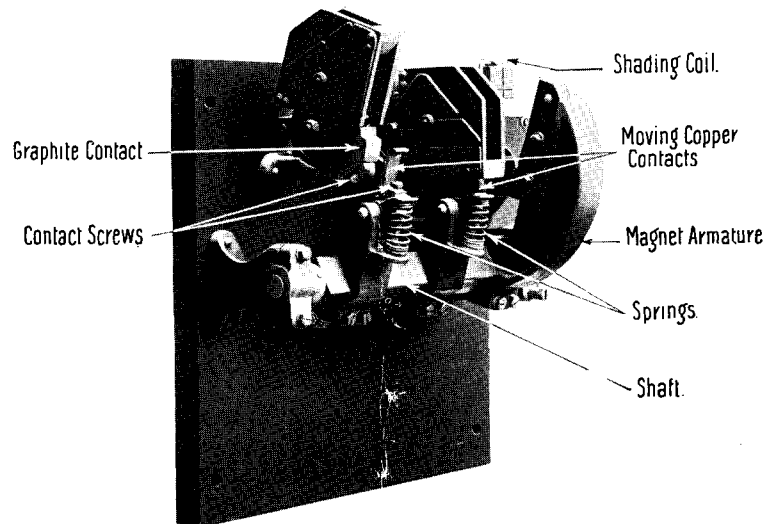

Fig. 2 - 250 Ampere Contactor
8. The moving contacts (Fig. 2) and the magnet armature are mounted on a common shaft and so arranged that the contactor opens by gravity, assisted by the action of strong non-adjustable springs.